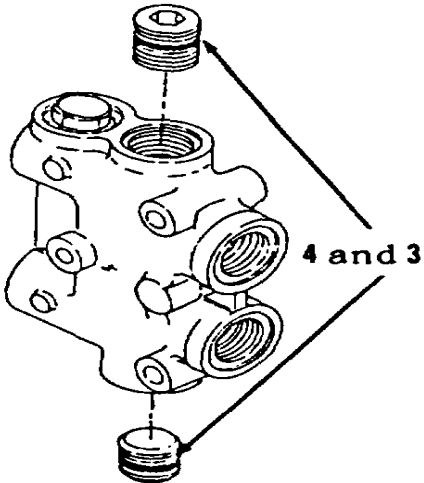

Figure 10-111.
- 10. Install items 4 and 3 as an assembly (Figure 10-111). Tighten two plugs (3) to 25 ft-lb torque.